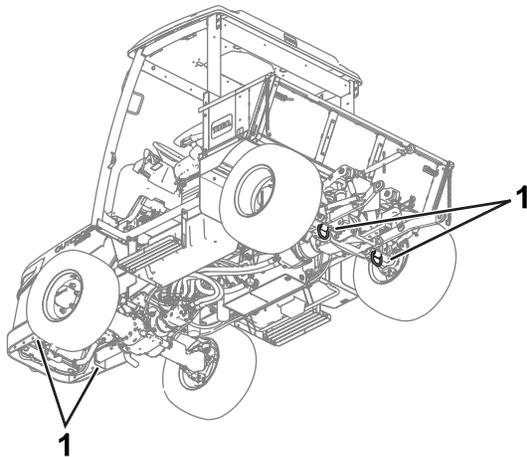

Figure 67
- Use the tie-down loops on the machine (Figure 67) to securely tie the machine down.